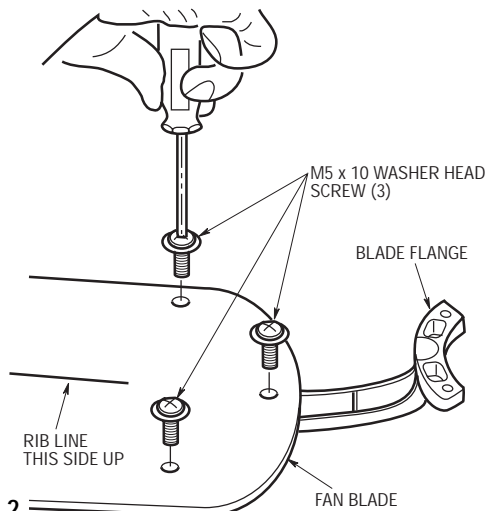

Figure 2
IMPORTANT: THE SIDE OF THE FAN BLADE HAVING THE RIB LINE MUST BE FACING UPWARDS AS SHOWN IN FIGURE 2.
- 7. Mount blade flanges to fan blades using three M5 x 10 washer head screws per blade (Figure 2).